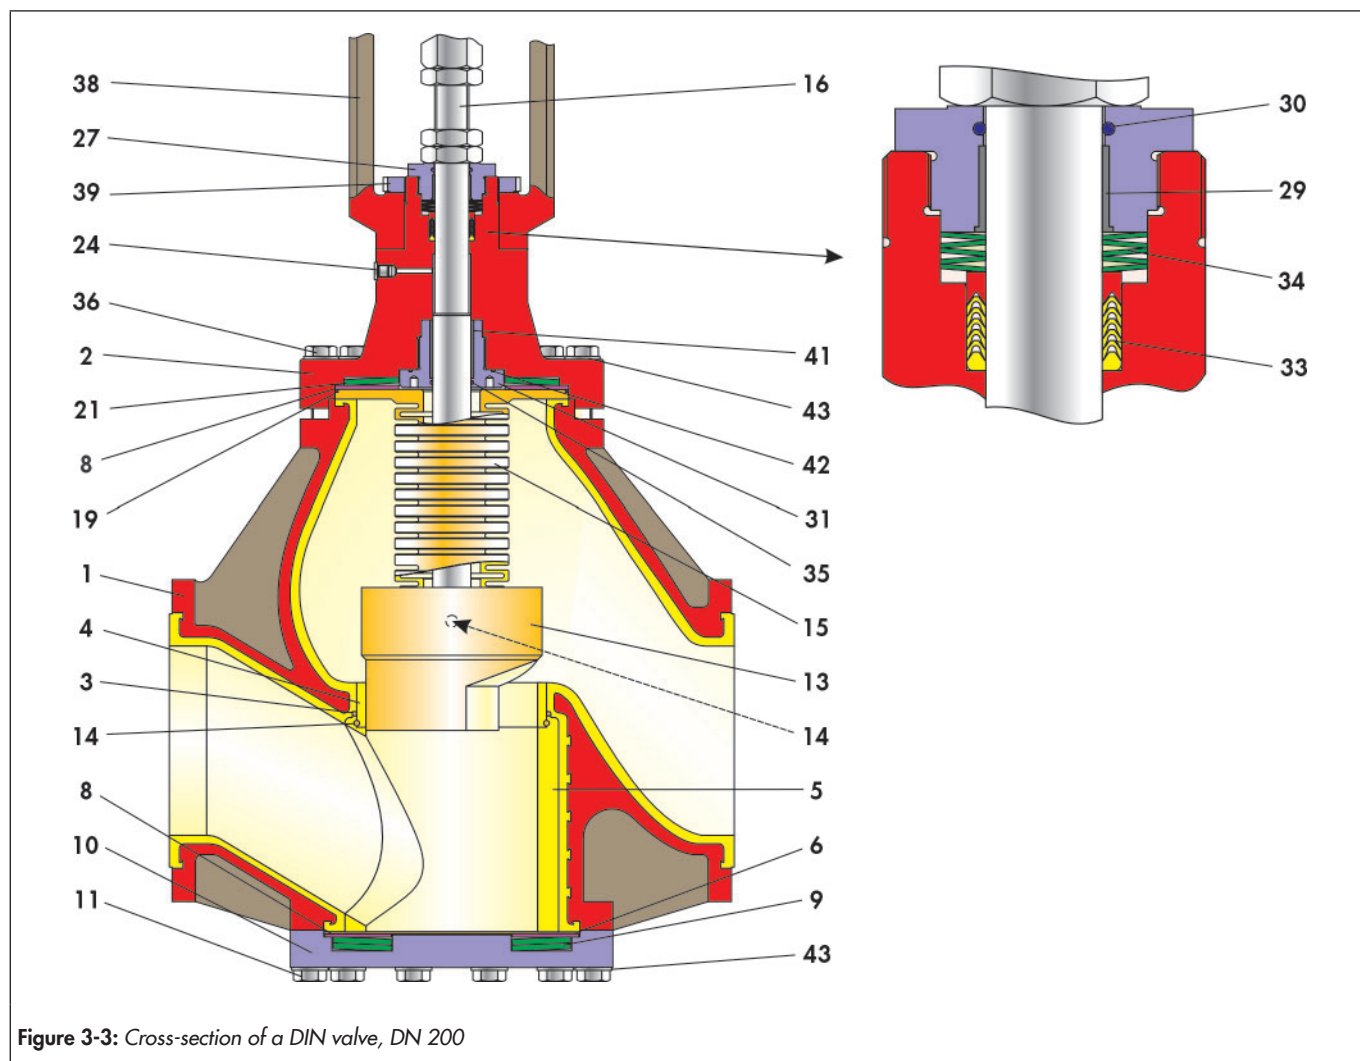

Figure 3-3: Cross-section of a DIN valve, DN 200
- ⇒ Make sure that the passage opening in the spacer (5) aligns with the inlet opening of the valve.
- ⇒ With a 5 mm drill bit, drill diagonally approx. 10 mm deep into the spacer (5) from the sealing surface.
- ⇒ Secure the spacer against twisting with a piece of PTFE cord (14) inserted into this borehole.
- ⇒ Lay the PTFE washer (6) on the spacer (5).
- ⇒ Place the thrust washer (8) on the PTFE washer (6).
- ⇒ Insert the spring washers (9). For the position of the spring washers, see Fig 3-3.
- ⇒ Carefully place the bottom flange (10) on the body.
- ⇒ Fit the washer (6), thrust washer (8) and spring washers (9) centrally in the bottom flange.
- ⇒ Tighten the screws (11) with the washer (43) in the valve body. Tighten the screws evenly in a criss-cross pattern.
- ⇒ Push the plug (13) onto the bellows (15).
- ⇒ Secure the connection between the plug and bellows with a PTFE cord (14) inserted as far as possible.
- ⇒ Place the bonnet flange (2) on a clean surface at working height so that the stem guide is easy to reach.
- ⇒ Insert the distance bushing and V-rings and lock ring of the V-ring packing (33). For the arrangement of the packing rings, see Figure 3-3.
- ⇒ Insert the set of spring washers (34) into the provided hole. Arrangement of the spring washers, see Figure 3-3.
- ⇒ Insert the O-ring (30) into the inner groove of the stuffing box (27).
- ⇒ Press the upper bearing bushing (29) into the bottom part of the stuffing box (27).
- ⇒ Grease the stuffing box (27) on the thread.
- ⇒ Screw the stuffing box (27) into the upper thread of the bonnet flange (2), the outer groove of the stuffing box is still visible.
- ⇒ Insert the spring washer (21), thrust washer (8) and O-ring (19) in the bonnet flange (2). For the arrangement of the components, see Figure 3-3.
- ⇒ Screw in the locking screw (24).